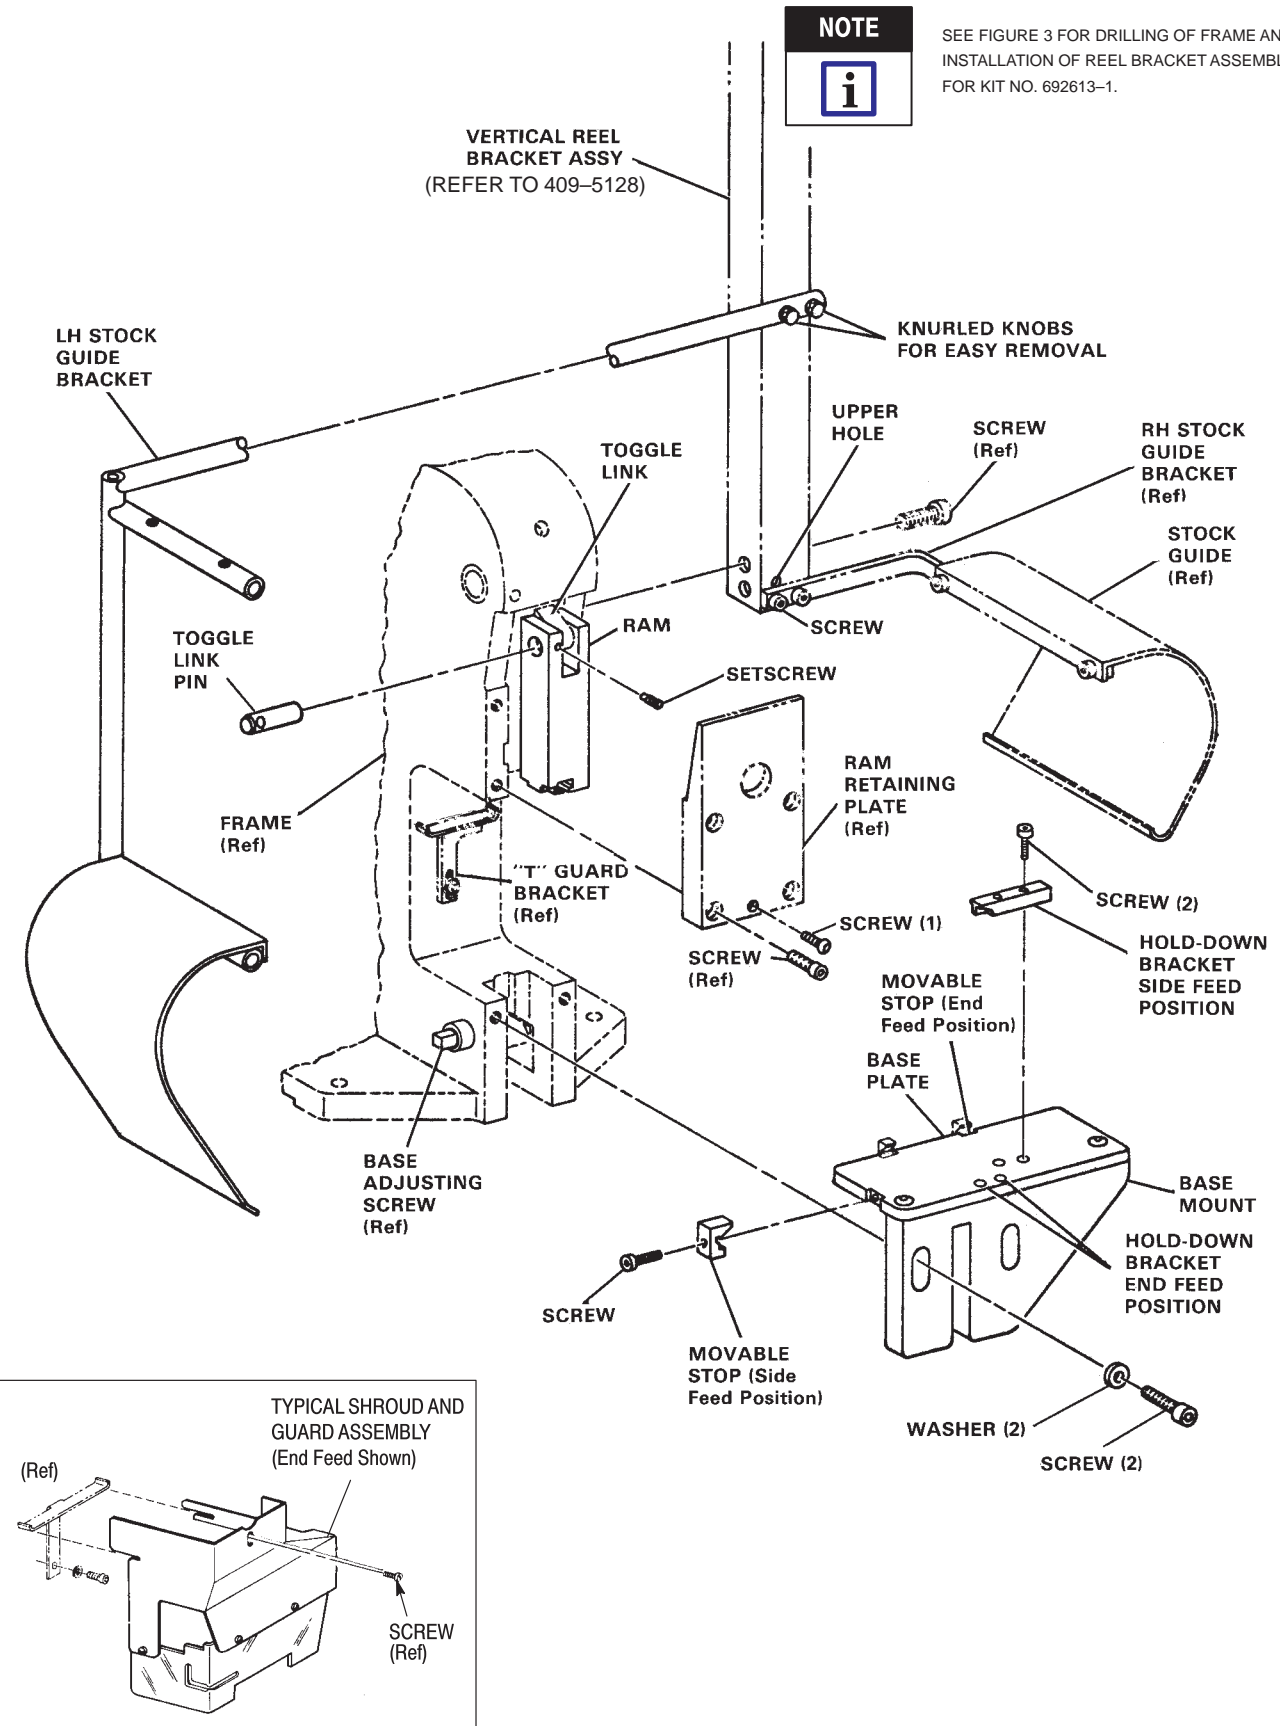

Figure 2
2.1. Kit No. 690675-2 Installation (Figure 2)
1. Install the movable stop on the back of the base mount for the end feed applicator or on the left end for the side feed applicator, as shown in Figure 2.
7. Install the side feed or end feed shroud and guard assembly, for the type of applicator installed, as shown in Figure 2.